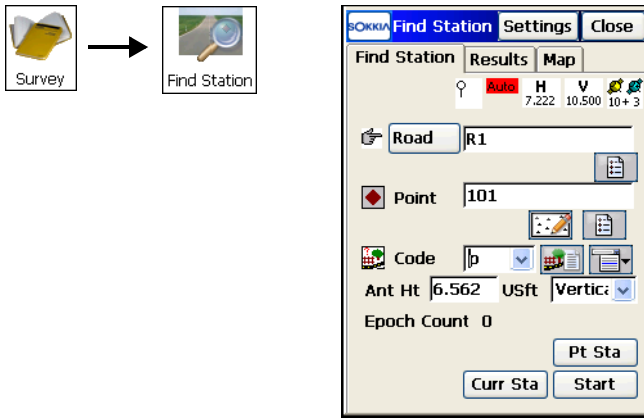

Figure 8-30. Find Station.
1. To start working, select the **Survey** ► **Find Station** icons (Figure 8-30 on page 8-29).
2. Enter the road, the name, and the code of the point and the antenna height and type (Figure 8-30 on page 8-29).
3. To compute the result with an existing point, tap the **Pt Sta** button (Figure 8-30 on page 8-29).
4. To compute the result with the coordinates of the current location without making an observation, tap the **Curr Sta** button (Figure 8-30).
5. To make an observation of the current location and store the coordinates to a point, and to compute the result with this point, tap the **Start** button (Figure 8-30).